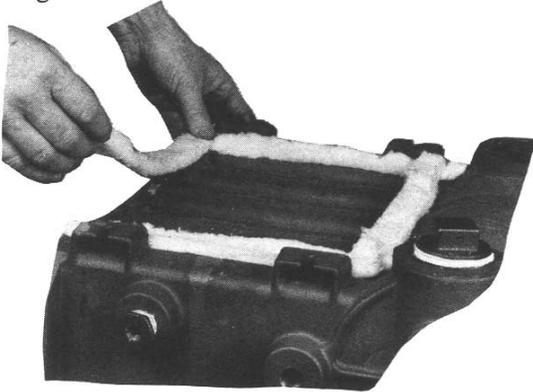

Figure 7: Canopy Gasket Installation
1. Install $\frac{1}{2}$ " thick x 1" wide ceramic fiber gasket. See Figure 7.